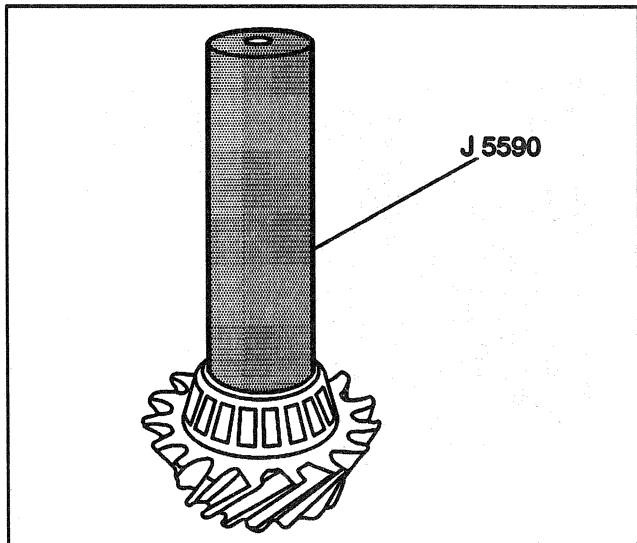

Figure 15—Installing the Pinion Inner Bearing
- Press the bearing onto the pinion until the bearing cone seats on the pinion shim(s) (Figure 15).